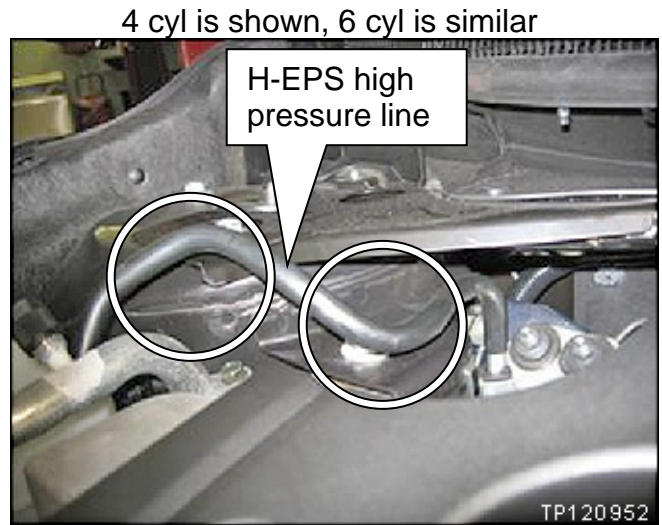

Figure 6
- a. Check the two locations circled in Figure 6.